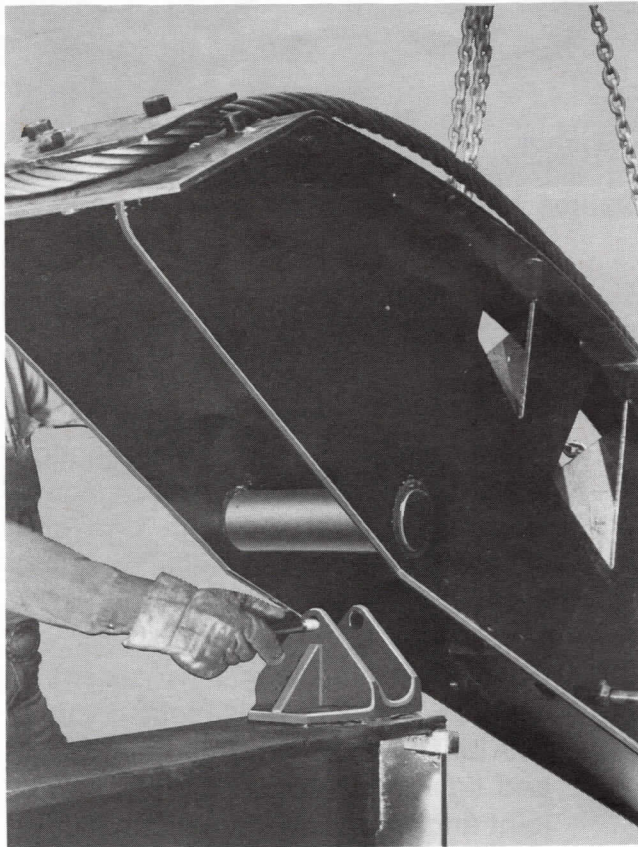

Fig. 12
18. Install horsehead on front of walking beam, Fig. 12. Attach wireline to horsehead and divide with carrier bar as equally as possible. Horsehead and pitman assembly can be erected with walking beam.